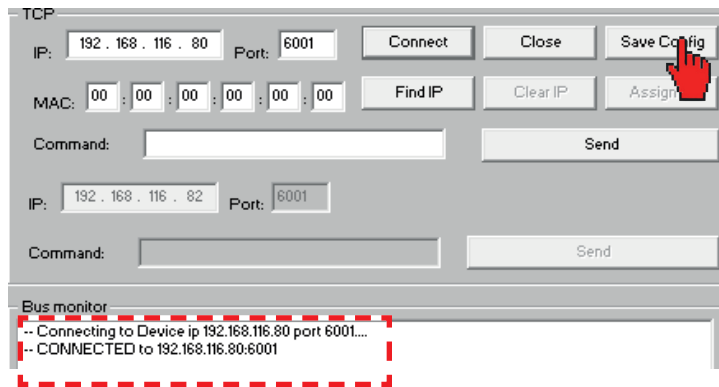

Fig. 21.15: Saving the configuration
- If the BCS is connected to the computer you are using, a “CONNECTED to x.x.x.x” message appears (see Fig. 21.15). Click on **Safe Config**.